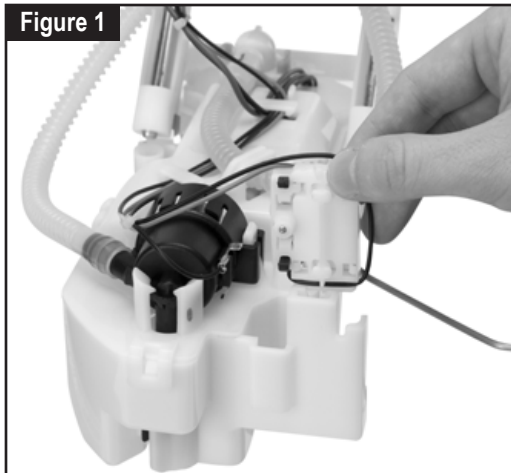

Figure 1
3. Position the rheostat and float arm and make sure the rheostat wires are positioned beside the fuel pressure regulator as shown (figure 1).